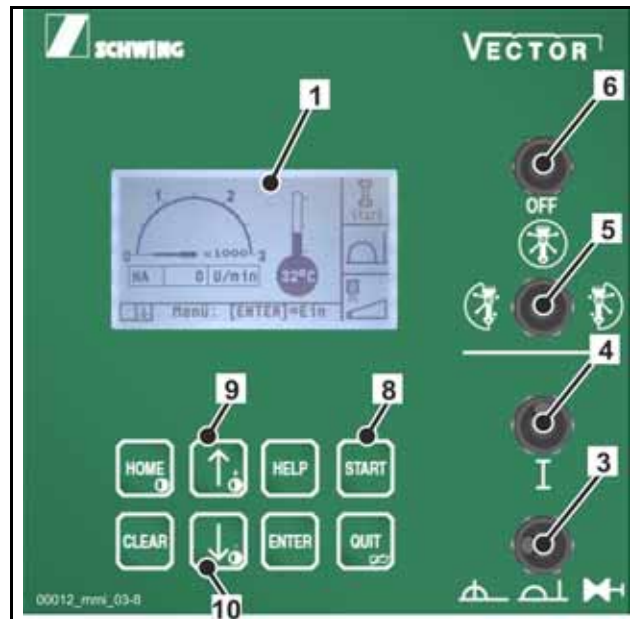

Fig. 465
- Then press the "START" button (8) (**Fig. 465**) to acknowledge the action and follow the menu prompts.